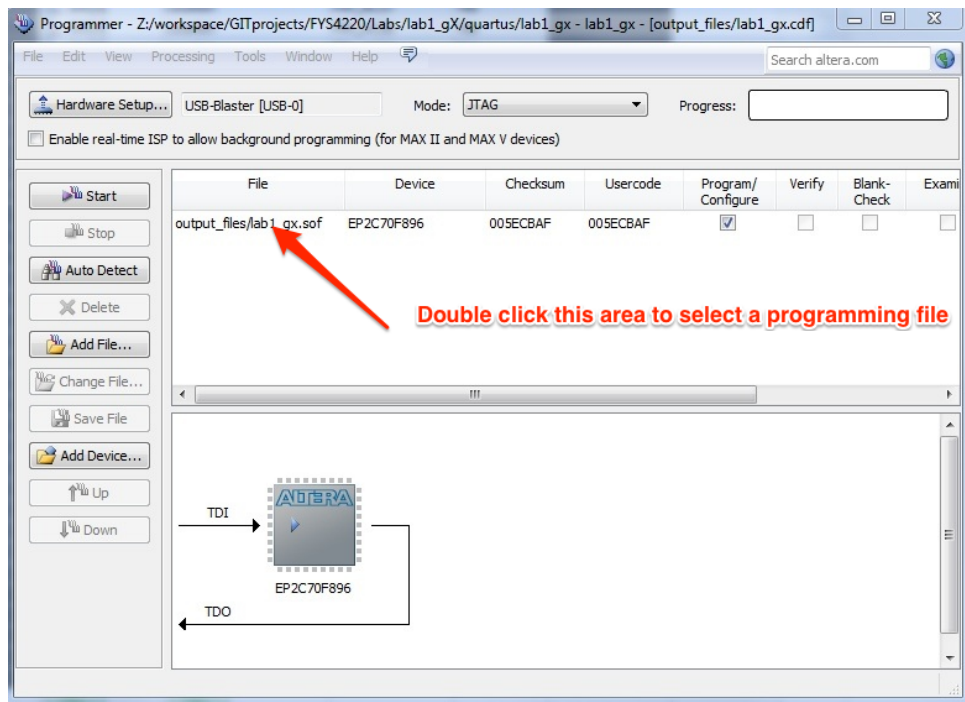
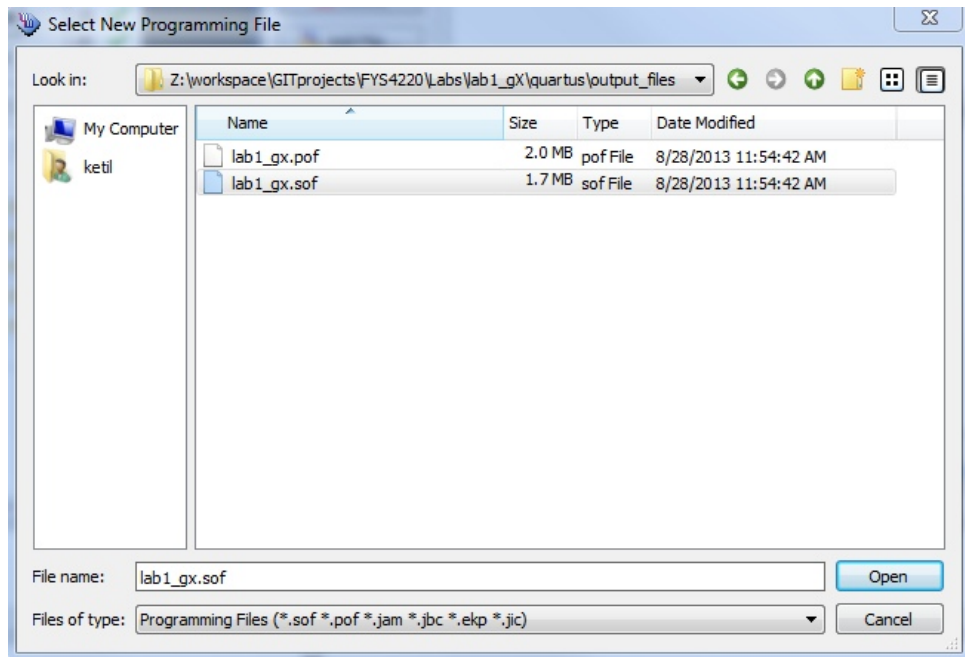

Figure 8:
Figure 9:
6. If the device does not show in the main window as illustrated in Figure 8, press Auto-Detect.
7. If the programming file does not show in the Programmer window, double click the area indicated in Figure 8. and select the correct programming file as shown in Figure 9.